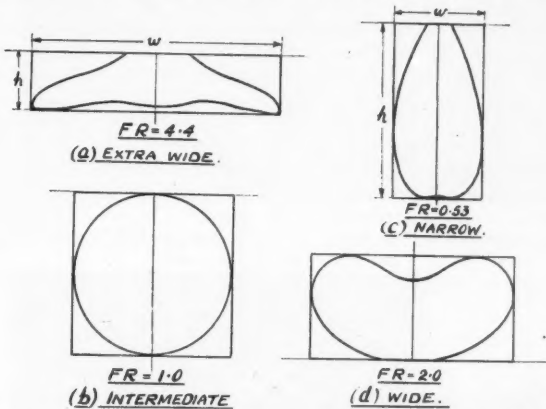

Fig. 1. Showing Typical Polar Curves of Light Distribution and method of obtaining the "Frame Ratio ( $w/h$ ).
But the second subsidiary classification corresponding to (2) has proved more difficult and agreement was less readily secured. The device which has proved most acceptable in this country was at first called the "box ratio" method, and later the "frame ratio" method consists in taking the polar curve of a light distribution in either the upper or lower hemisphere depending on which contains the major portion of the flux, and drawing a rectangle whose sides are parallel to the 0° radius vector and to the 90° radius vector of the polar curve so as to completely enclose the polar curve. This is shown in Fig. 1 for several distributions. The method proposed to describe the polar curve by the ratio of the sides of this circumscribing rectangle, viz.,  $w/h$ , where  $w$  is the width of the rectangle and  $h$  is its height. The different types of distribution were then defined numerically by this ratio.